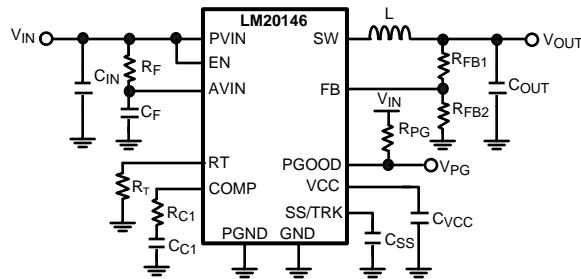

Figure 29. Typical Application Circuit
The LM20146 switching regulator features all of the functions necessary to implement an efficient low voltage buck regulator using a minimum number of external components. This easy to use regulator features two integrated switches and is capable of supplying up to 6A of continuous output current. The regulator utilizes peak current mode control with nonlinear slope compensation to optimize stability and transient response over the entire output voltage range. Peak current mode control also provides inherent line feed-forward, cycle-by-cycle current limiting and easy loop compensation. The switching frequency can be varied from 250 kHz to 750 kHz. The device can operate at high switching frequency allowing use of a small inductor while still achieving high efficiency. The precision internal voltage reference allows the output to be set as low as 0.8V. Fault protection features include: current limiting, thermal shutdown, over voltage protection, and shutdown capability. The device is available in the HTSSOP package featuring an exposed pad to aid thermal dissipation. The LM20146 can be used in numerous applications to efficiently step-down from a 5V or 3.3V bus. The typical application circuit for the LM20146 is shown in Figure 29 in the design guide.
This section walks the designer through the steps necessary to select the external components to build a fully functional power supply. As with any DC-DC converter numerous trade-offs are possible to optimize the design for efficiency, size, or performance. These will be taken into account and highlighted throughout this discussion. To facilitate component selection discussions the circuit shown in Figure 29 below may be used as a reference. Unless otherwise indicated all formulas assume units of Amps (A) for current, Farads (F) for capacitance, Henries (H) for inductance and Volts (V) for voltage.
To prevent high frequency noise spikes from disturbing the sensitive analog circuitry connected to the AVIN and AGND pins, a high frequency RC filter is required between PVIN and AVIN. These components are shown in Figure 29 as C_F and R_F . The required value for R_F is 1Ω. C_F must be used. Recommended value of C_F is 1.0 μF. The filter capacitor, C_F should be placed as close to the IC as possible with a direct connection from AVIN to AGND. A good quality X5R or X7R ceramic capacitor should be used for C_F .